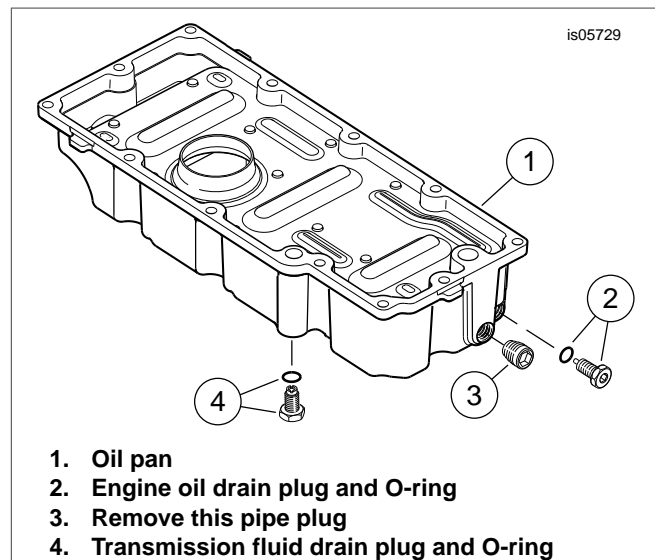

Figure 1. Oil Pan and Plugs, FL Touring Models
- See Figure 1. Remove the unused pipe plug (3) (**NOT** the engine oil drain plug, item 2) from the left front of the oil pan.